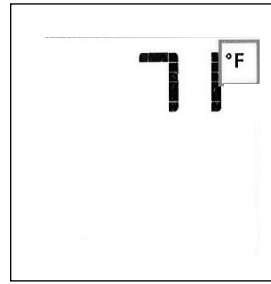

Figure 8.8. Room temperature readings
- With the transmitter in the OFF position, press the Thermostat Key and the Mode Key at the same time. The display screen will show the current room temperature cycling between Fahrenheit and Celsius indicators each time the keys are pressed simultaneously. See fig. 8.8.